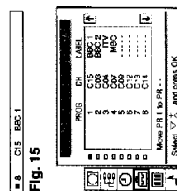

Fig. 15
- 4 Using Δ or ∇ select the programme position which you want to move to another and press OK. The colour of the selected position changes. (See Fig. 15)